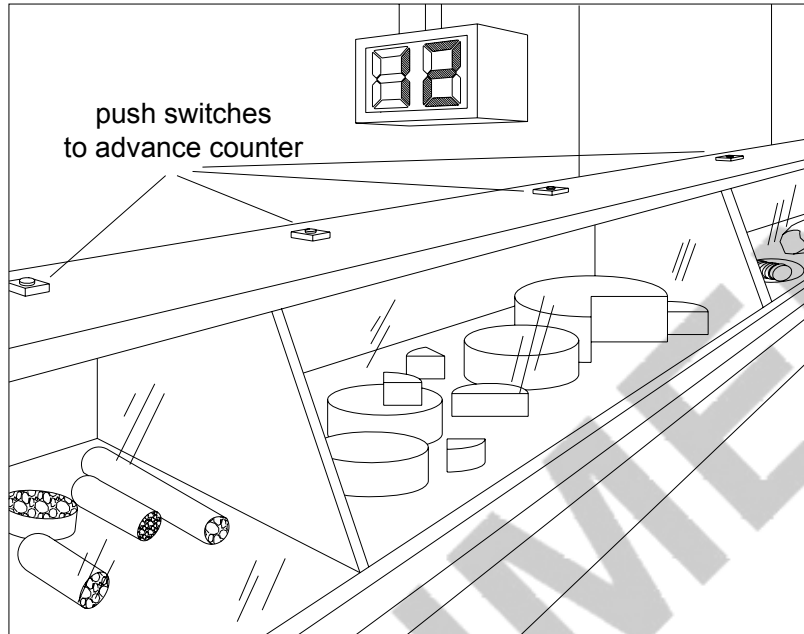

Fig. 14
- 4 A supermarket requires a display to show the ticket number for the next customer at a fresh food counter. The display will be operated by any one of four push switches spaced along the counter. Fig. 14 shows the proposed layout of the system.